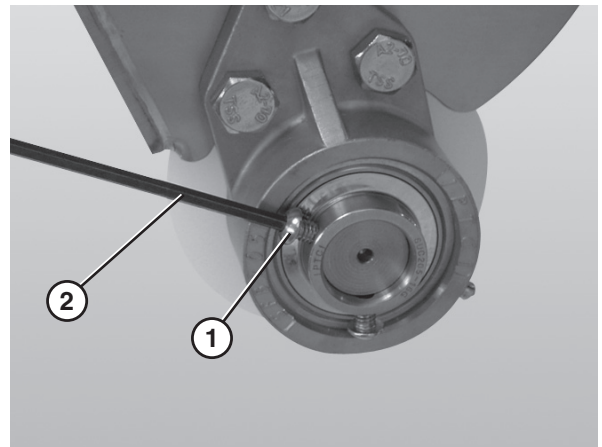

Figure 72
5. Tighten the 3 hole flange with bearing fasteners (**Figure 72, item 1**) using a hex wrench (**Figure 72, item 2**) to 54 in•lbs. Check after 24 hours of conveyor use.